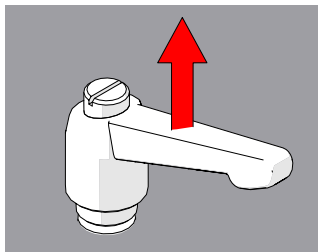

Fig. 64 - Pull ratchet handle
1. Pull the ratchet lever away from the base to which it is connected (Fig. 64).